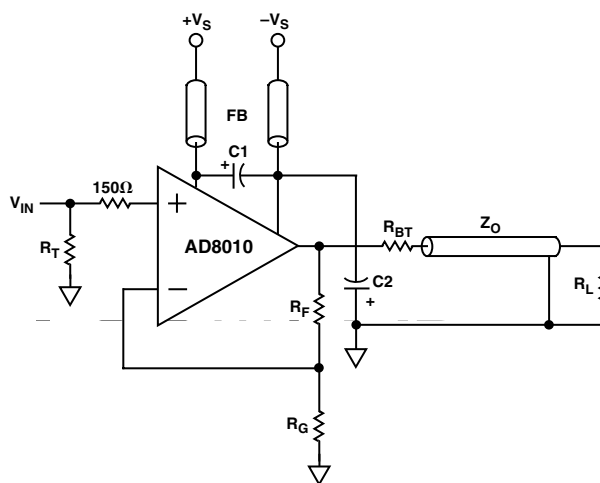

Figure 29. Standard Noninverting Closed-Loop Configuration with Recommended Bypassing Technique
To achieve these levels of performance special precautions with respect to supply bypassing are recommended (Figure 29). This configuration minimizes the contribution from high frequency supply rejection to differential gain and phase errors as well as reducing distortion due to harmonic energy in the power supplies.
The standard noninverting closed-loop configuration with the recommended power supply bypassing technique is shown in Figure 29. Ferrite beads (Amidon Associates, Torrance CA, Part Number 43101) are used to suppress high frequency power supply energy on the DUT supply lines at the DUT. C1 and C2 each represent the parallel combination of a $47 \mu\text{F}$ (16 V) tantalum electrolytic capacitor, a $10 \mu\text{F}$ (10 V) tantalum electrolytic capacitor and a $0.1 \mu\text{F}$ ceramic chip capacitor. Connect C1 from the $+V_S$ pin to the $-V_S$ pin. Connect C2 from the $-V_S$ pin to signal ground.
NOTE: Please see Figure 29 for Recommended Bypassing Technique.
3. Bypassing per Figure 29.